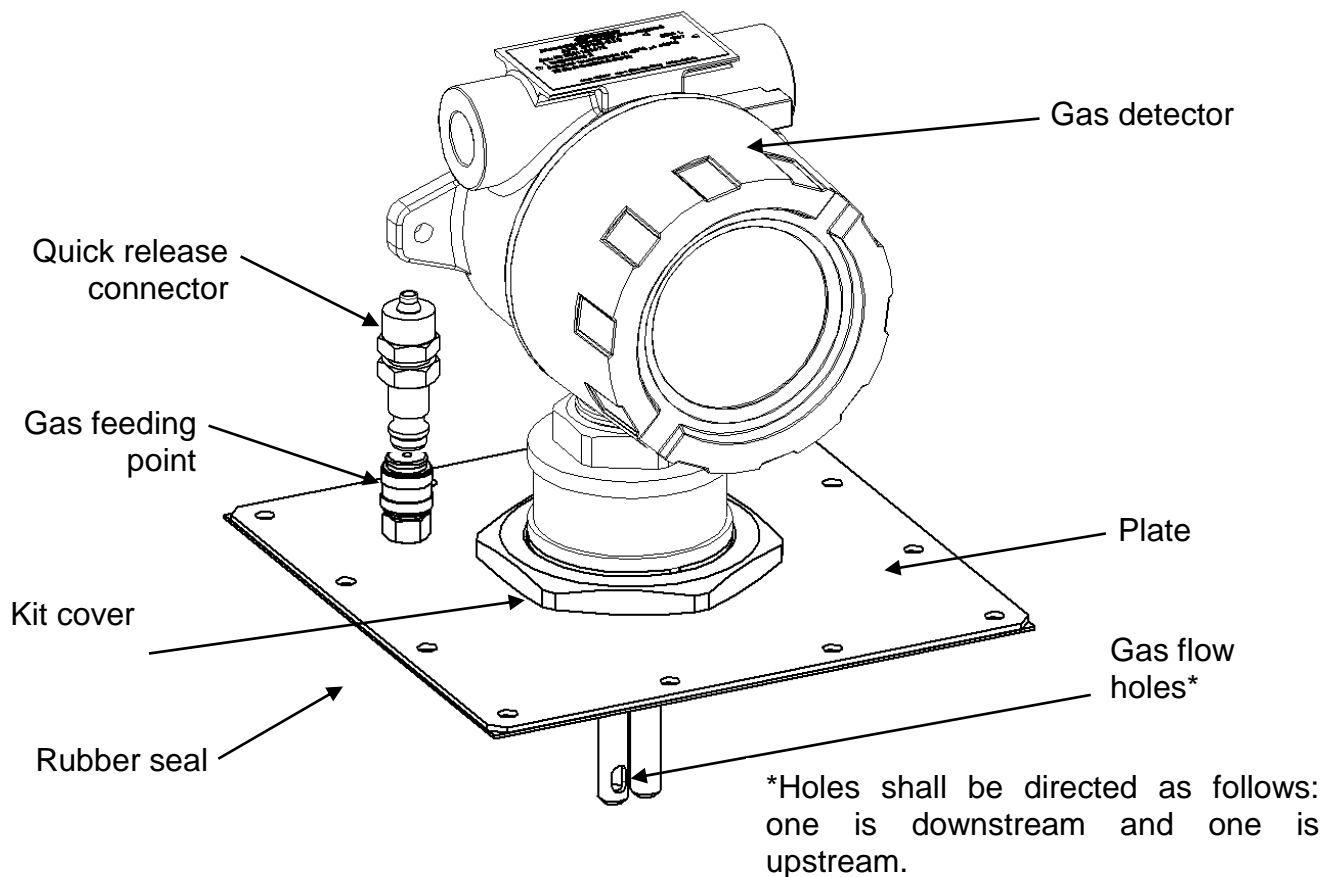

Figure 15 – External view of the gas detector and air duct mounting kit.
- c) Screw the gas detector into the cover of the kit (Figure 15);
External view of the mounted gas detector is shown at Figure 15.